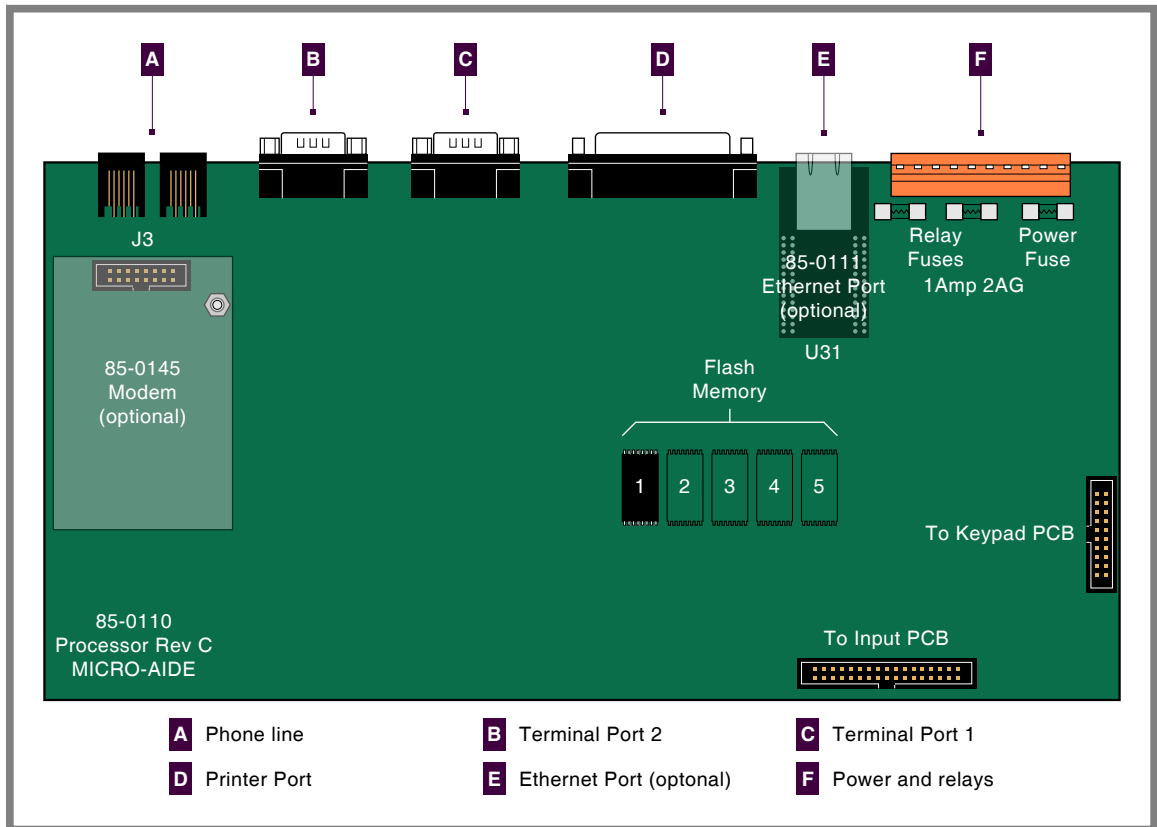

Figure 10: Processor PCB
There are three fuses mounted on the Processor PCB. The fuses are designed to protect the input power source and the contacts of the two output relays. Each are rated at 1 A and conform to the 2AG size standard. Before replacing a fuse the cause of the blown fuse should be ascertained and cleared if possible. The fuses are illustrated in Figure 10 on page 75.
3. Locate the 56-pin female socket labeled "U31" along the upper edge of the Processor PCB. The socket is illustrated in Figure 10 on page 75.
Generally, the modem PCB is ordered at the time the recorder is purchased and is pre-installed at the factory. If the modem was not previously ordered, it can be installed by the user. To install the modem follow the steps listed in the following. The modem is illustrated in Figure 10 on page 75.
2. Locate the 16-pin female socket labeled "J3" along the left edge of the Processor PCB. The socket is illustrated in Figure 10 on page 75.